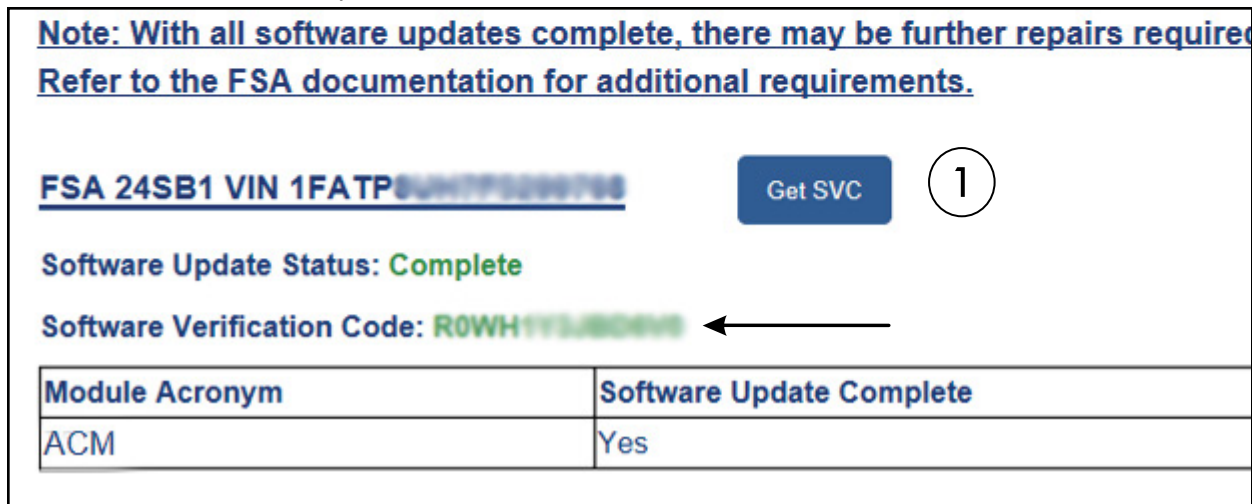

FIGURE 2
18. Does the FDRS **Software Update Status** display a **Complete** status? See Figure 2.